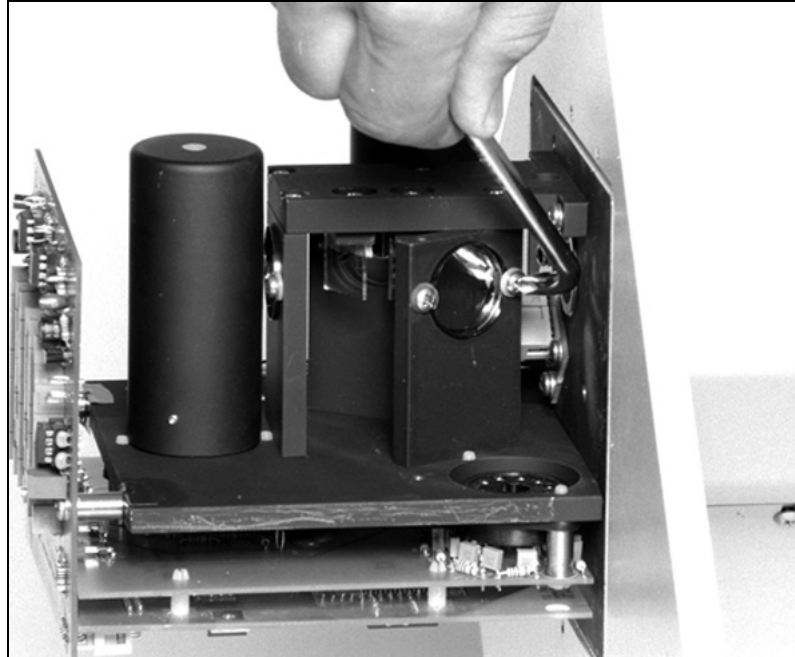

Figure 8-42
5. Use the S-shaped Phillips-head screwdriver to unscrew the two screws holding the filter in place, and remove the filter (Figure 8-42).